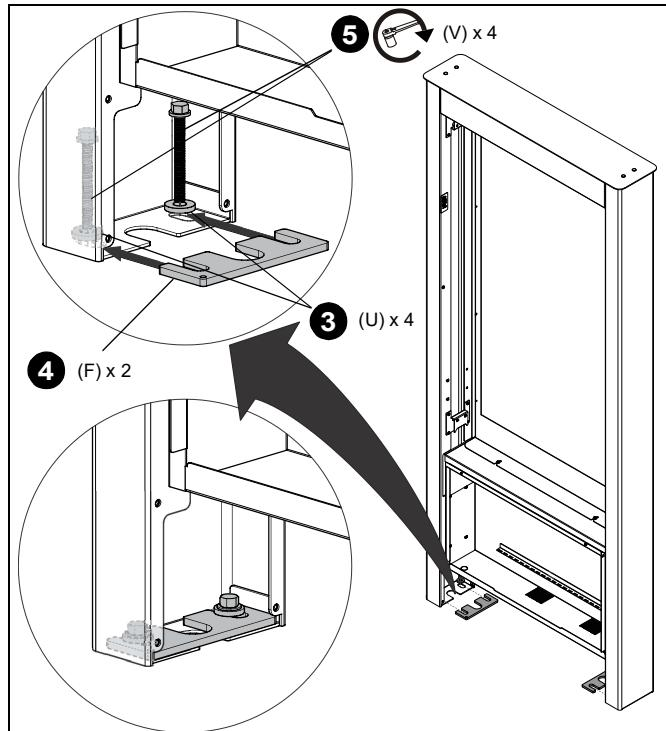

**Figure 5**
2. Carefully tilt the kiosk frame (A) upwards until standing vertically. Move the feet of the frame into position over the four drilled holes in floor. (See Figure 5)